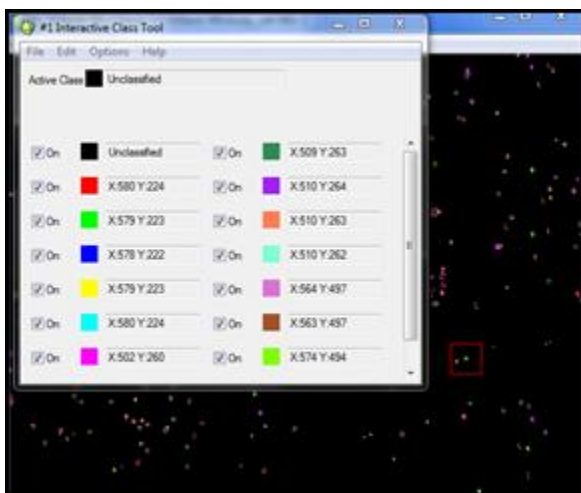

Figure 5.8d. Overlay Image with Interactive Class Tool Window
- Right click on any of the colored squares to activate and overlay all classes (Figure 5.8d).